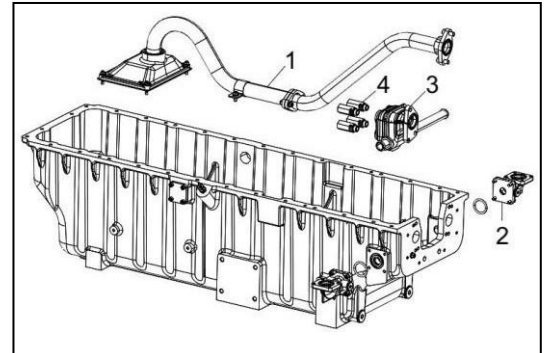

Figure 102
4. Remove the oil strainer (Figure 102, 1) in two stages.
5. Remove the pipe joints (Figure 102, 2).
6. Remove the supporting seat (Figure 102, 3), oil pipe and oil pump pressure limiting valve group (Figure 102, 4).